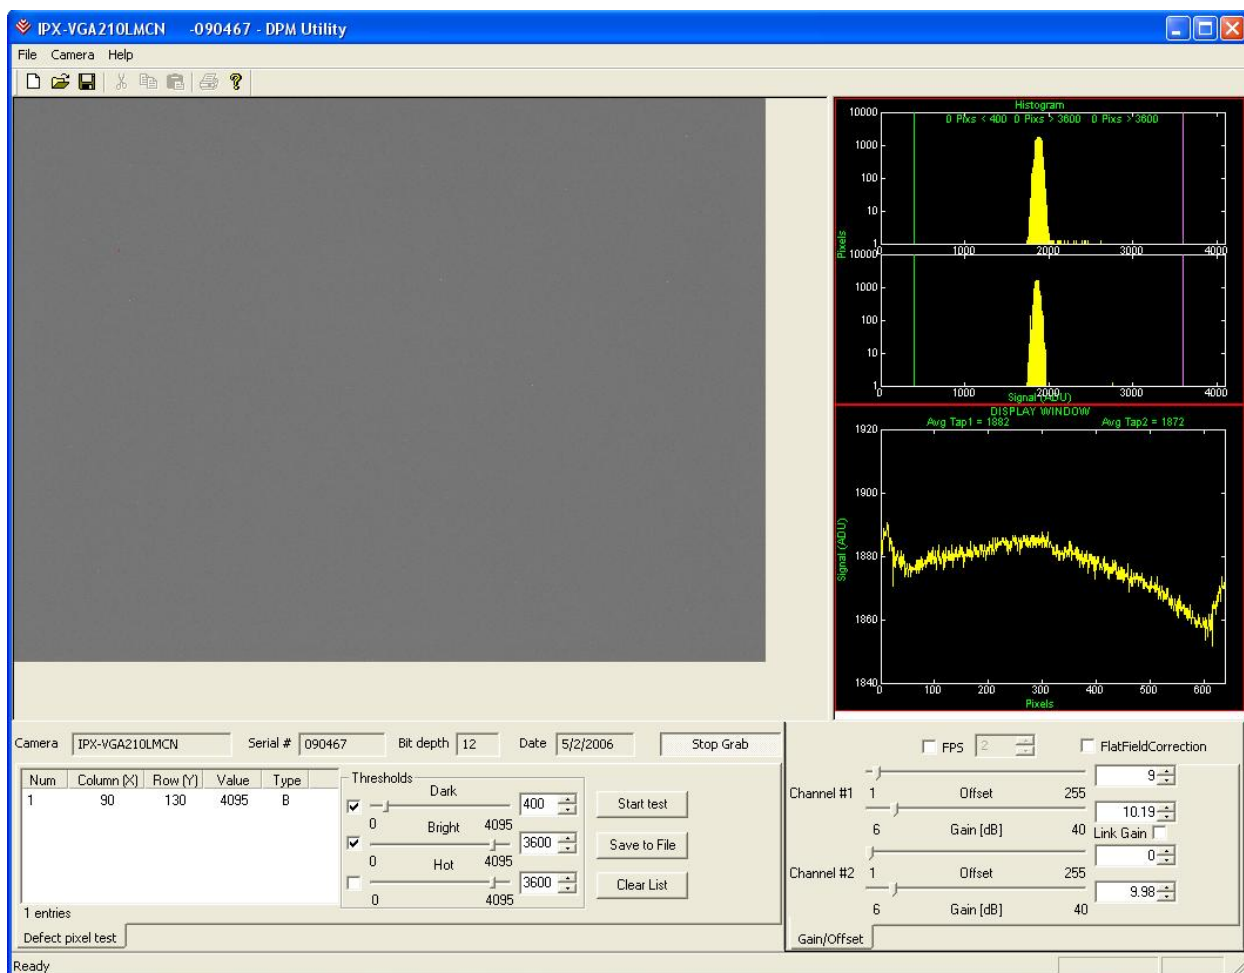
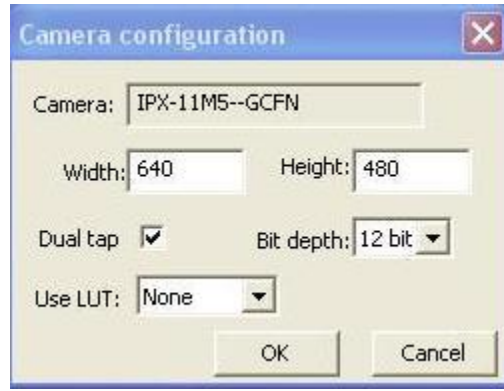

Figure 2 – DPC Processor main dialog
Figure 3 – Camera Configuration window
- Open DPC utility software – Figure 2. Click on the "Camera" menu and select the "Camera Configuration". A new window will appear – Figure 3. Set the camera parameters. The default is full image window, 12-bit, dual, no LUT, but the user can set the parameters to any desired values.